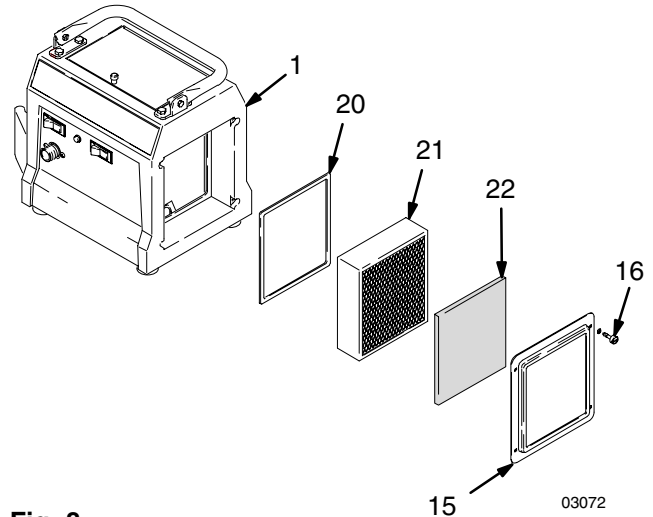

Fig. 8
2. Loosen four thumbscrews (16), remove filter retainer (15) and pre-filter (22). See Fig. 8.
3. Remove main filter (21) and clean by using one of the following three methods: